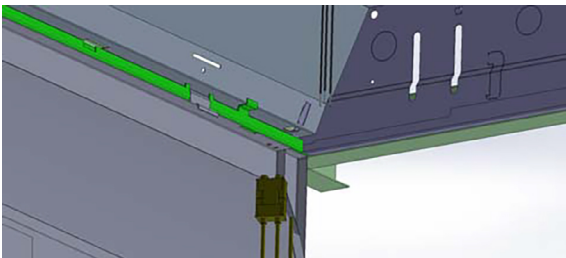
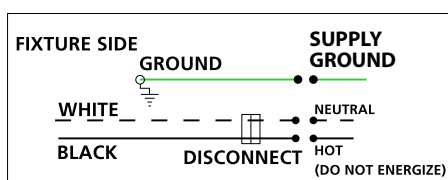

Fig. 1.6
Fig. 1.8
8. Wire the ground with a wire nut. Check for grounding to luminaire housing. Connect incoming power lines to fixture with provided disconnects (Fig.1.6, Fig.1.8).